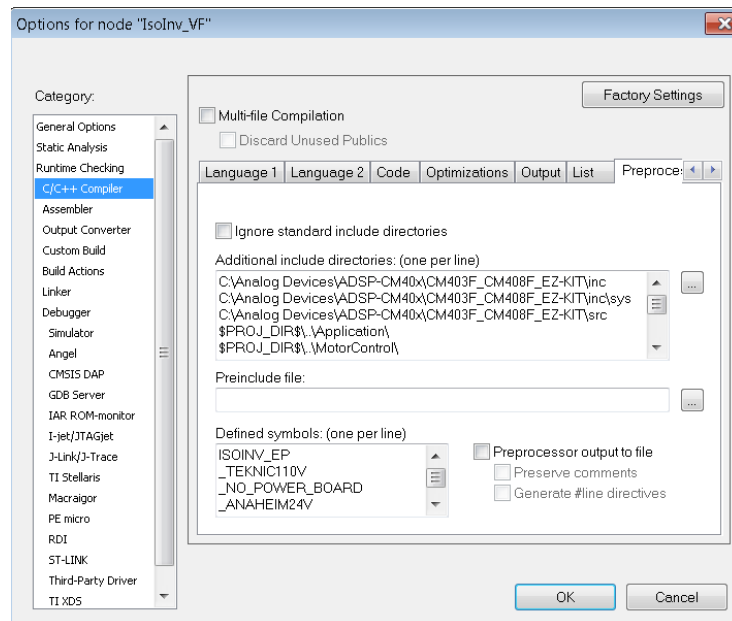

Figure 4: Include Directories and Preprocessor Defines
3. Go to “Project→Options→C/C++ Compiler→Preprocessor→Define Symbols”, see Figure 4 and check that the correct additional include libraries and pre-compiler options are selected for the demo platform used. Possible configurations for the preprocessor defines are shown in Table 3. The additional include libraries are: